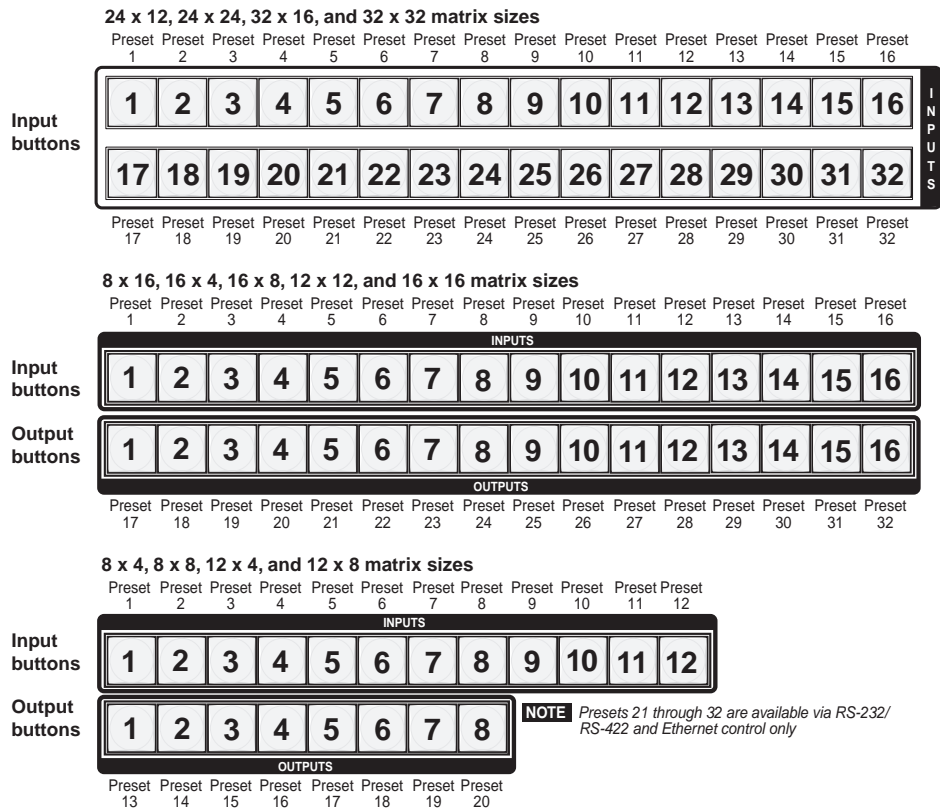

Figure 3-42 — Preset locations by matrix sizes
- Figure 3-42 on the next page shows the presets associated with the various input and output buttons for all three front panel configurations.
NOTE Figure 3-42 on page 3-29 shows the presets associated with the various input and output buttons for all three front panel configurations.